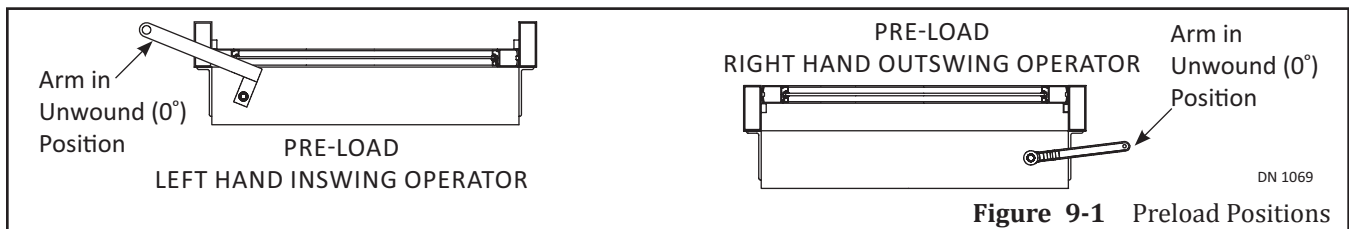

Figure 9-1 Preload Positions
1. Ensure the Spring on the Operator is in the Unwound (0 degree) position. Please see Figure 9-1.